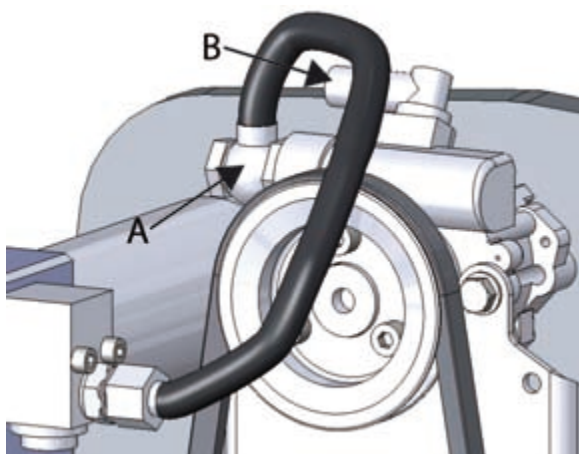

Figure 72. Hoses of the hydraulic pump
1. Remove the hydraulic pump pressure hose (figure 72, point A) and suction hose (figure 72, point B) and drain the oil into a container.
5. Install the pressure hose (figure 72, point A) and return hose (figure 72, point B).